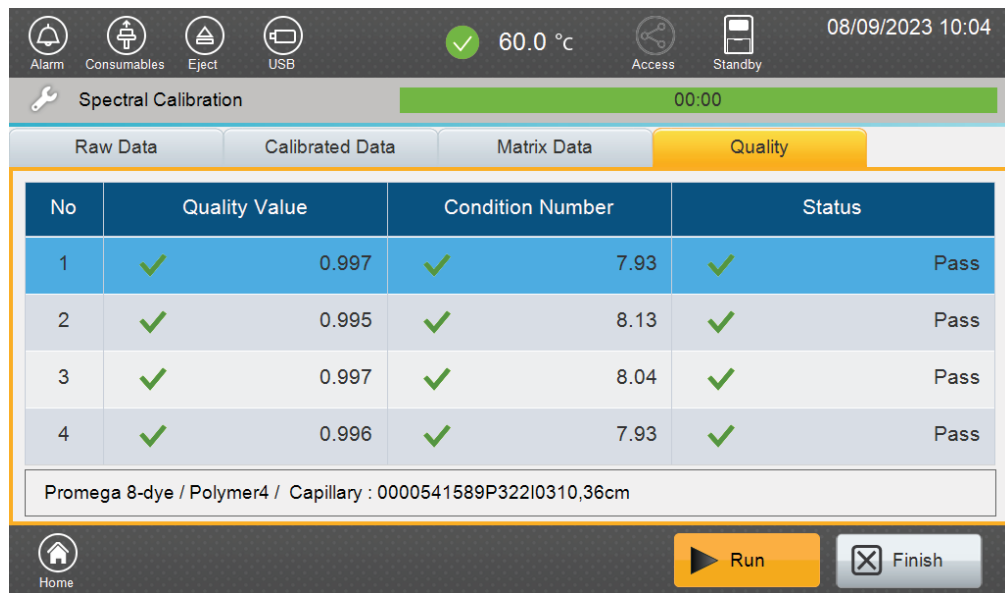

Figure 13. Spectral Calibration 'Quality' tab.
- Review the quality of the spectral calibration by selecting the 'Quality' tab (Figure 13).